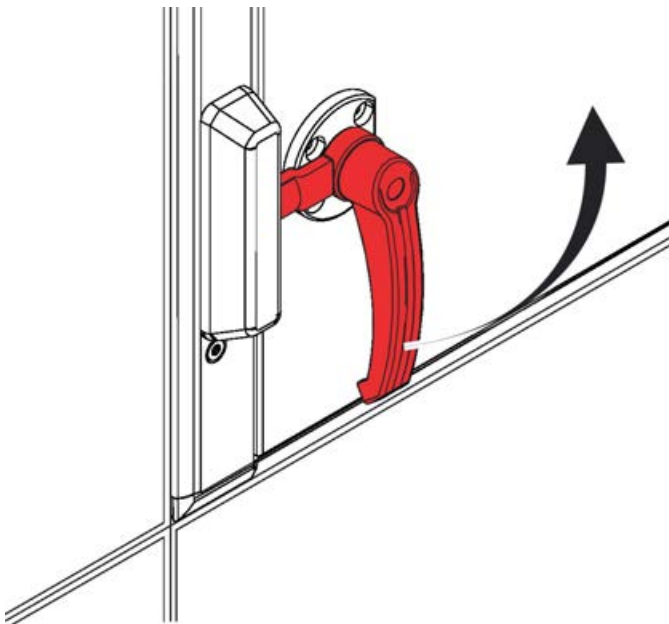

Fig. 16: Opening a door lock
1. ▶ Turn the door handle anti-clockwise by 90° (Fig. 16).